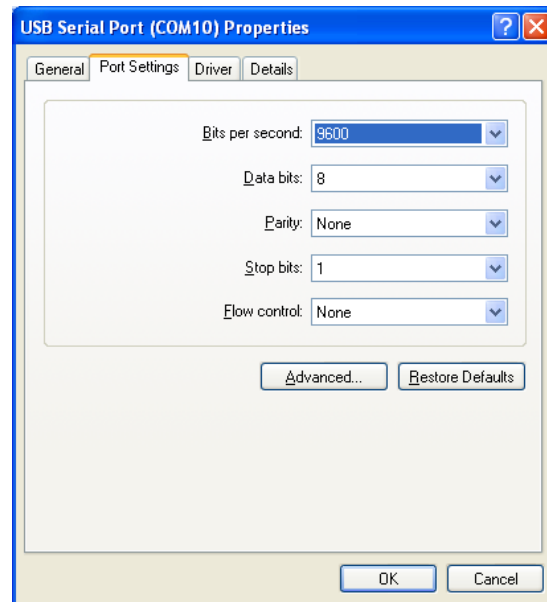

Figure 26 – XP USB Driver Port Settings Tab
- f. When you click “Yes” you will go back to the USB Serial Port Properties window (Figure 26). Click Ok at the bottom of this window.